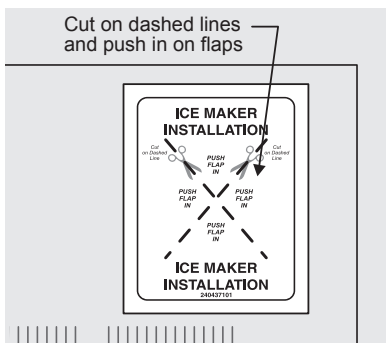

Figure 8
10. Locate the Ice maker installation label on the rear outside right top corner of the refrigerator. Cut the label on the dashed lines, and push flaps inward until they stick to the unit. See Figure 8.